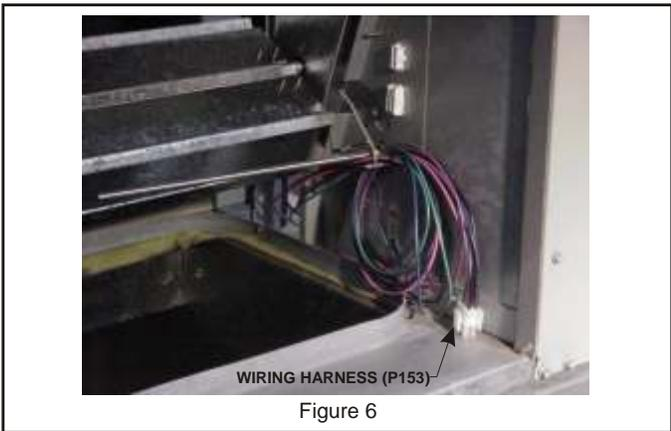

Figure 6
8. Route the 3-pin connector P153 and wiring harness under the balancing damper and out through the return air. Coil excess wire and route into return air of the rooftop unit. **See Figure 6.**